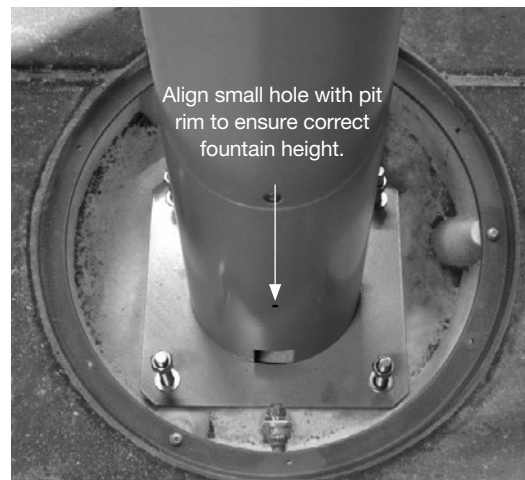

Fig. 1
2. Lower the pole body onto the threaded rods. Ensure that the bottom of the small hole that's located between the hatch and the baseplate sits in line with the pit rim **Fig. 1**. Adjust for level and height by raising and lowering the nuts supplied. Check the perpendicularity of the pole.